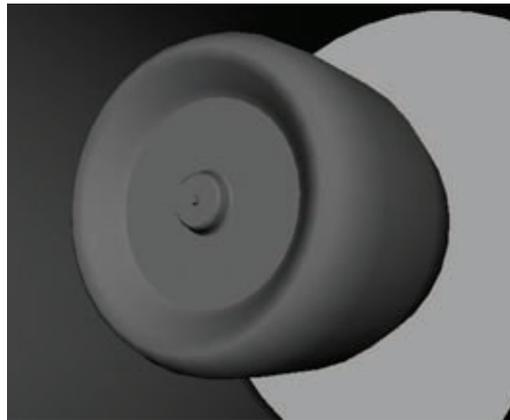

Figure 7.4
- Once revolved, place it in the center of the fan housing. Select the front face and, using a couple of simple Extrudes and Bevels, bring out a central detail to serve as an axis, such as my example shown in Figure 7.4. You can add more details, such as bolts or screws, to your own preference.